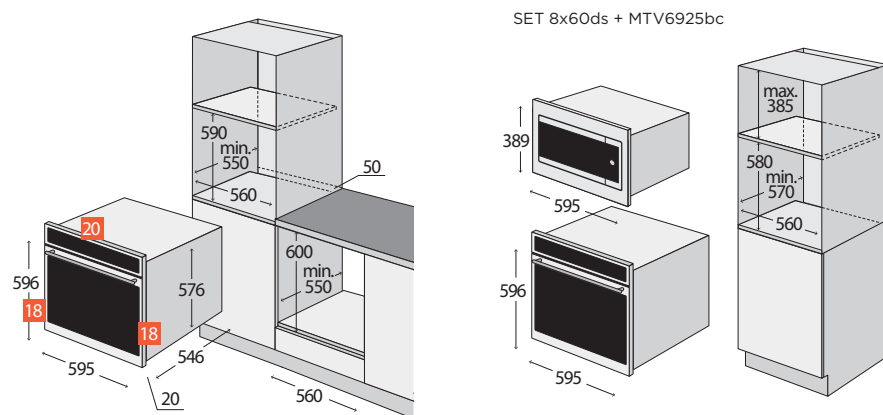

Fig. 6
- The unit should be installed in standardised kitchen furniture designed for built-in appliances or in properly adapted furniture of dimensions according to Fig. 6.
- The appliance may be located either under a kitchen cabinet or in a stand-alone cabinet (Fig. 6).
2. For the sake of efficient air circulation the unit has to be located according to the dimensions on Fig. 6 and the design of the cabinet must enable air flow into its bottom part. The gap behind the rear wall of the built-in appliance must be at least 50 mm.